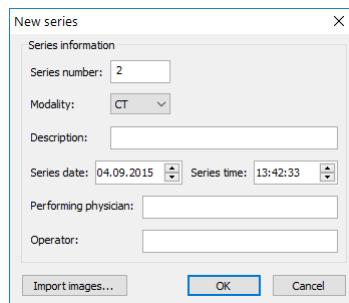

Figure 423 – New series dialog
3. Fill the information concerning the new series into the **New series** dialog (see Figure 423).